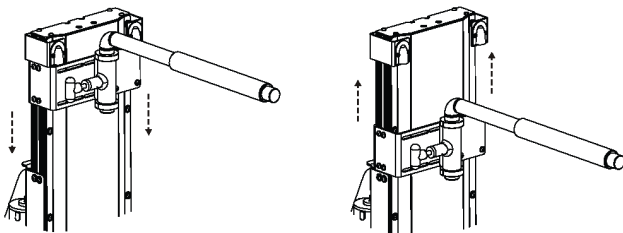

Figure 5-5
2. Slide the bracket to a height 1" or 2" less than the height measured from the mobility device and tighten all 12x screws. When tested with a mobility device, the hold-down arm should compress the seat cushion and keep the mobility device from moving on the platform. *See Figure 5-5.*